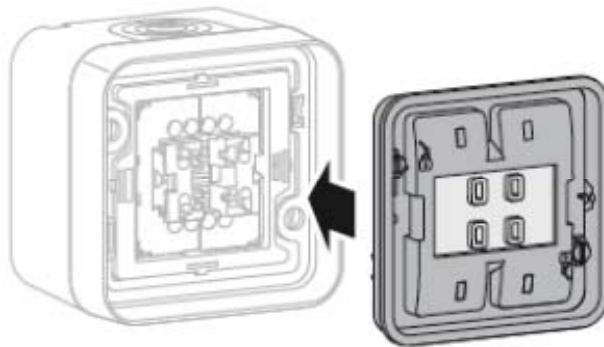

Figure 9
- Lock the sealing (2) into place in the frame (Figure 9).